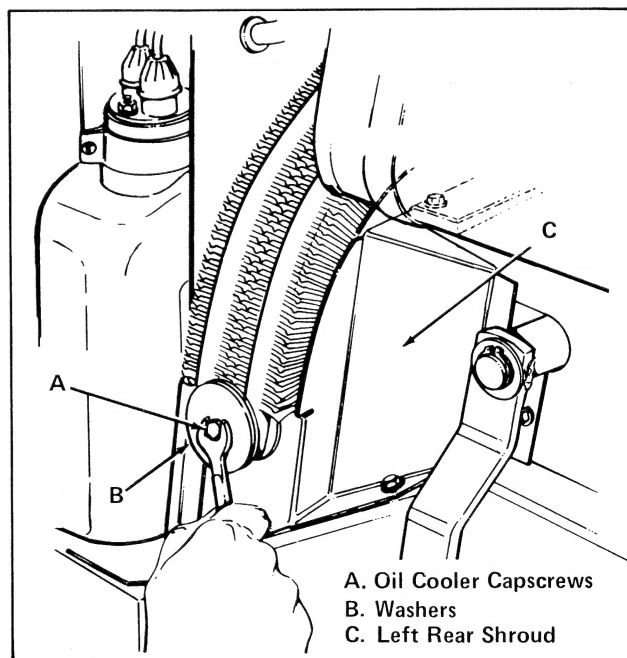

Figure 25. Loosen Cooler and Remove Shroud
10. Remove oil cooler capscrews (item A, figure 25) and washers (item B) on left and right side of tractor. Rotate oil cooler over to the right side. Remove the left hand rear cooler shroud (item C).